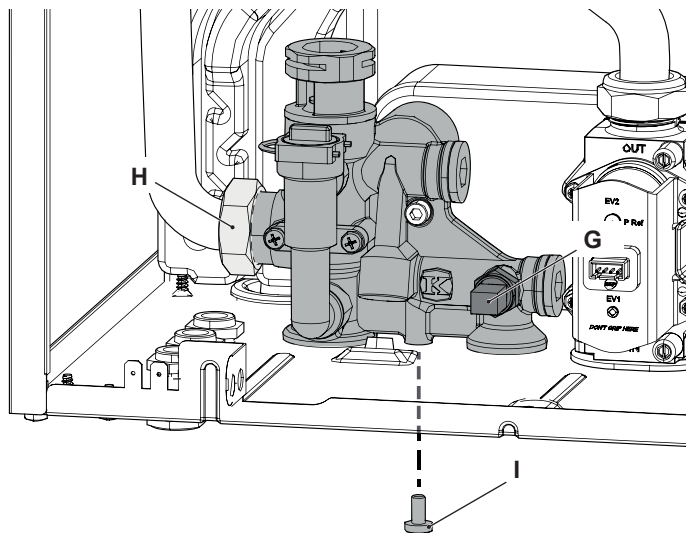

Figure 8.6
- 4 Disconnect D.H.W. temperature probe NTC "G" (Figure 8.6).
- 5 Unscrew the connector "H" (Figure 8.6), the C.H. flow connector and the D.H.W. outlet connector.